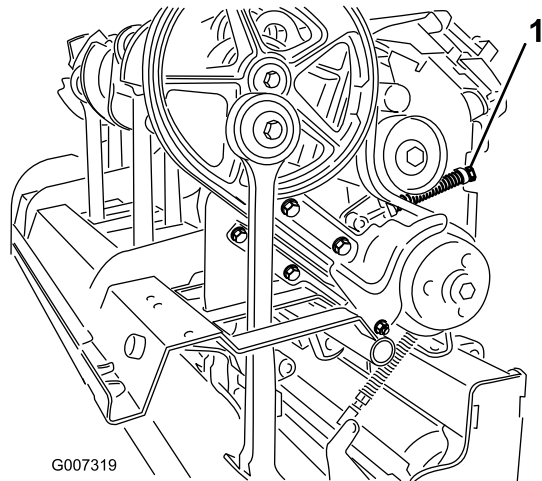

Figure 37
4. To release the idler spring tension, loosen the lock nut securing the spring retainer (Figure 37) and rotate the spring retainer.